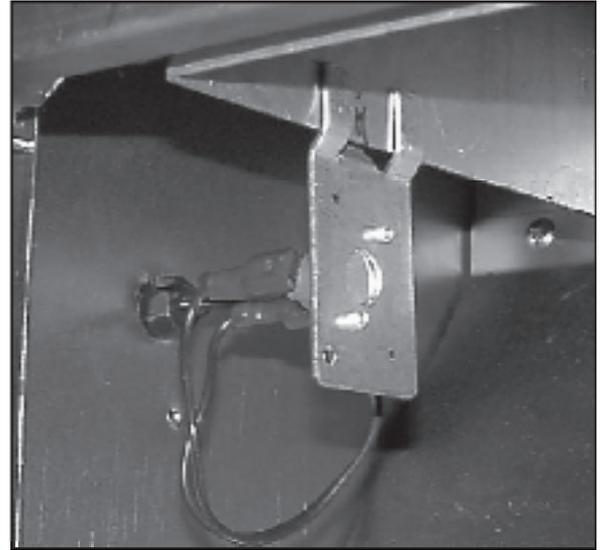

Figure 2: Blocked Vent Switch
- 4) The AWR, CWI and BSI boilers are equipped with a blocked vent shut-off switch (Figure 2). This switch will shut the boiler down in the event that there is an excessive blockage in the vent system. This switch has a reset button, which must be pressed before the boiler can be restarted.